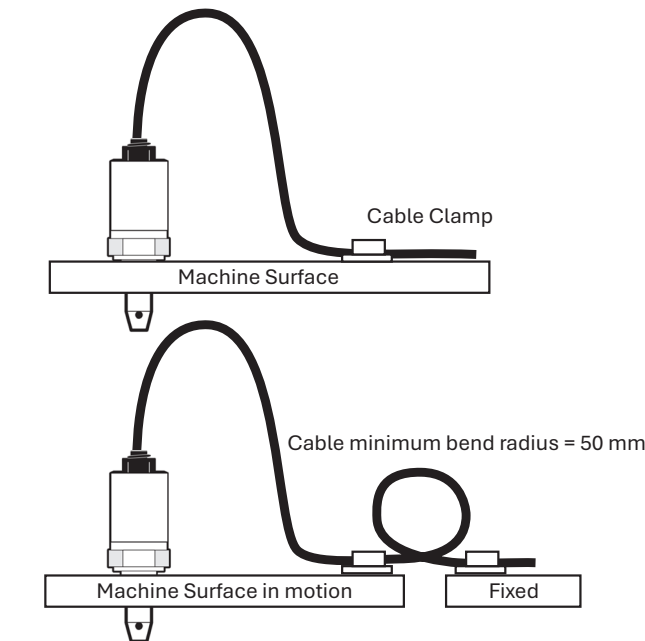

Fig. 4-1 Cable Fitting
- Refer to Fig. 4-1. To prevent vibration having any adverse effects to the cable/sensor connectors, the cable must either be mounted on the same plane as the sensor, or have a loop fitted to absorb vibration.